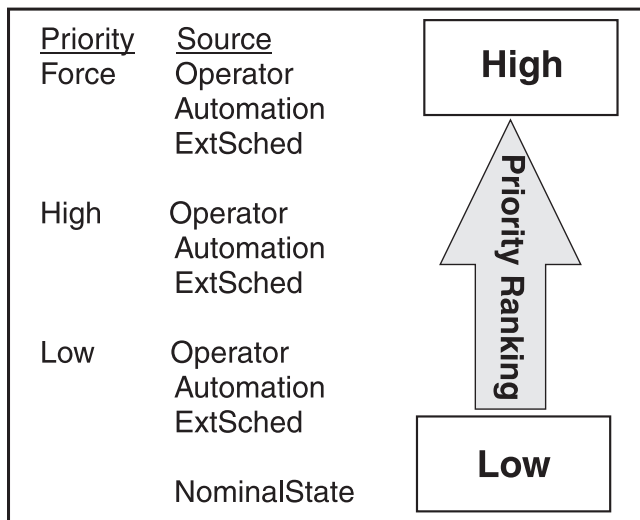

Figure 30. Priority ranking of requests
- If requests have the same priority level, the Source attributes are evaluated to determine the priority rank of each request. Figure 30 illustrates how the Source attribute value influences the priority ranking of requests.
Figure 30 shows that requests from source 'Operator' take precedence over requests from sources 'Automation' and 'ExtSched' and requests from Source 'Automation' take precedence over requests from source 'ExtSched'. This means that you can overrule requests from source 'Automation' by issuing command line requests using the option **-p high**. To overrule a request from source 'Operator', you must specify the option **-p force**.